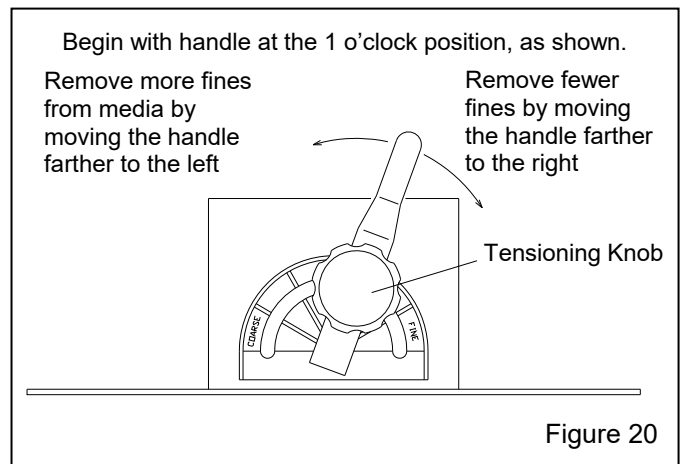

Figure 20
5.4.1 The vortex cylinder is located atop the reclaimer where the flex hose connects. Adjustments are made by loosening the handle's tensioning knob and moving the handle to achieve the correct setting. When the correct setting is established, tighten the locking knob to prevent movement. Start with the lever slightly to the right (about 1 o'clock, as shown in Figure 20) of the vertical position.